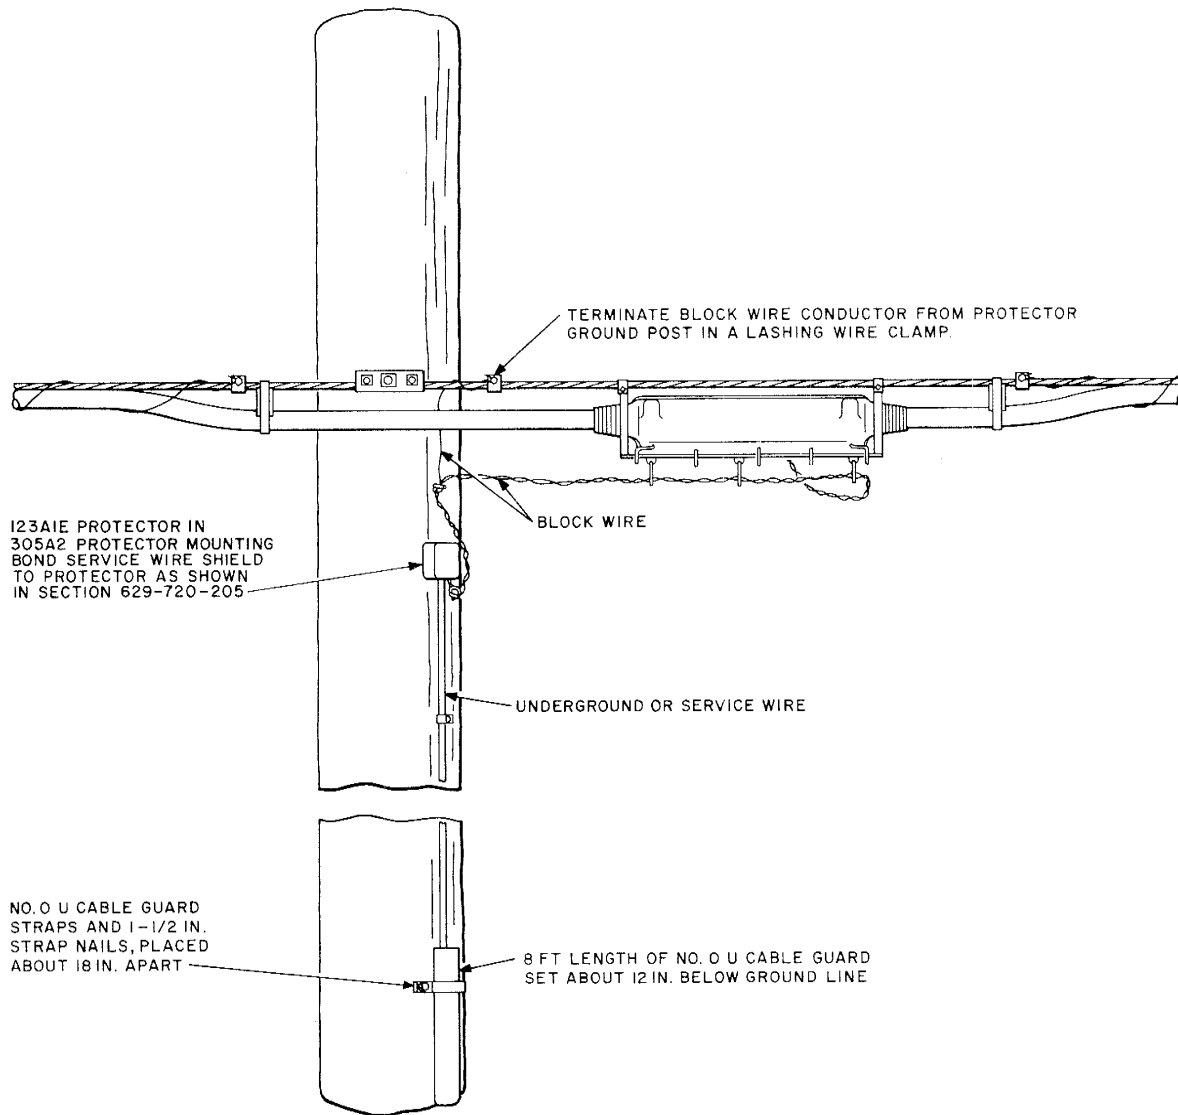

**Fig. 4—Armor Wire of D Underground Wire Terminated in No. 31589 Solderless Connector**
**2.05** Where the buried wire is over 500 feet in length and the armor wire of the D Underground Wire is to be grounded to the cable terminal, terminate the armor wire in a solderless connector as shown in Fig. 4.